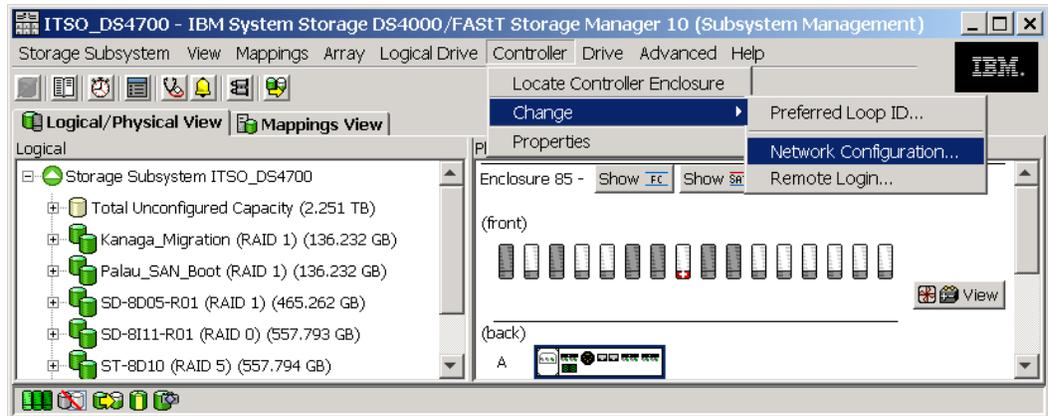

Figure 5-24 Changing Network Configuration in Subsystem Management window
- g. Now we are connected to the DS4000, but with the default IP addresses. We must change the address. In the Subsystem Management window, right-click one of the controllers and select **Change** → **Network Configuration** (Figure 5-24).